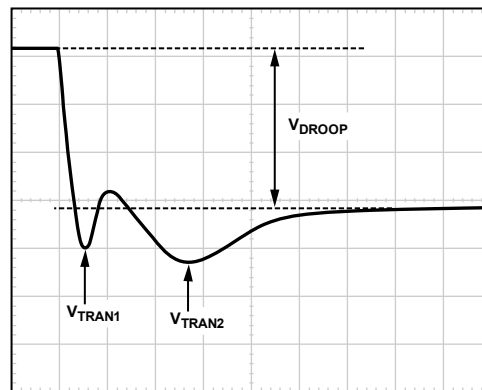

Figure 42. Transient Setting Waveform, Load Step
1. With the dynamic load set at its maximum step size, expand the scope time scale to $2 \mu\text{s}/\text{div}$ to $5 \mu\text{s}/\text{div}$. This results in a waveform that may have two overshoots and one minor undershoot before achieving the final desired value after V_{DROOP} (see Figure 42).